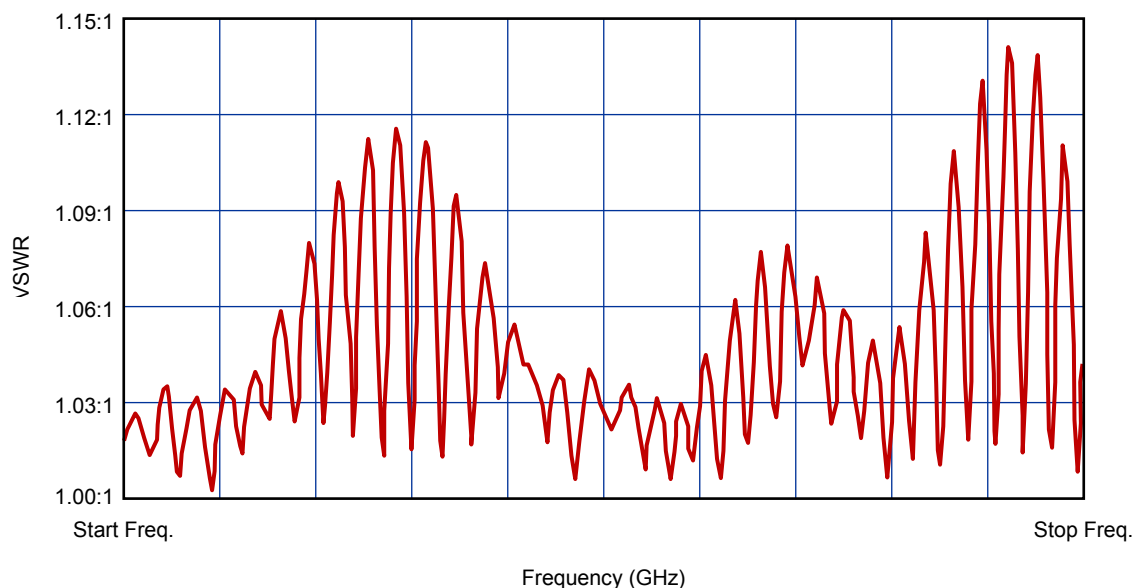

Figure 7. VSWR Display (Probes Retracted)
10. Set VNA controls for a convenient display and verify that the maximum VSWR is as specified on Table 1 over the full frequency range of the tuner per Table 1. The VNA display should be similar to the sample shown in Figure 7.